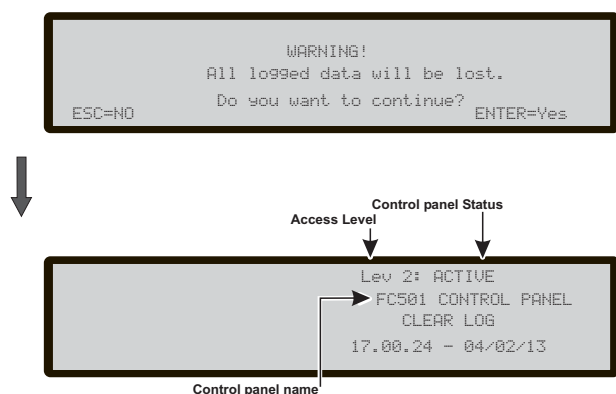

Figure 35 Display "Clear LOG"
Use the **5 key** to select **Clear LOG** (see Figure 35).
*During the Clear LOG activity the MAIN page will be displayed with the Panel activity field loaded with CLEAR LOG string (see Figure 35). Once the Log has been cleared, the panel resets.*